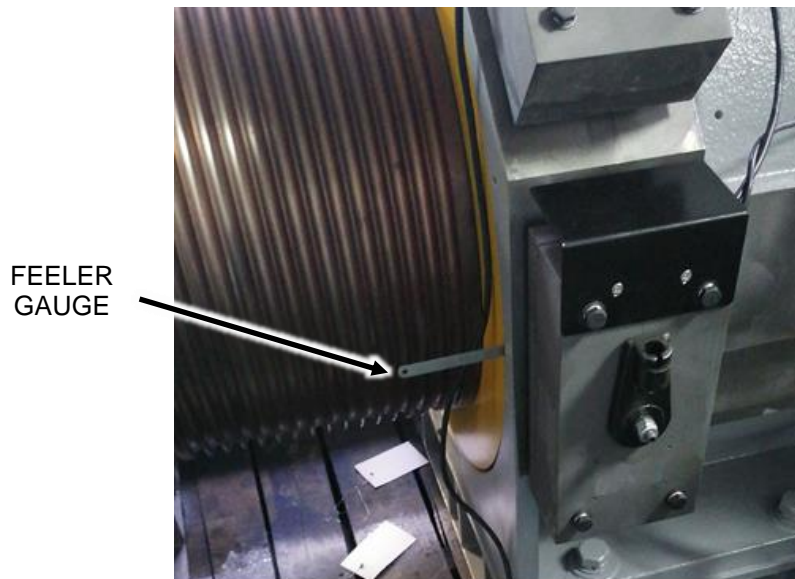

Figure 15
- If brake pad wear is excessive replace the brake pad or replace the entire brake assembly. See Figure 15.